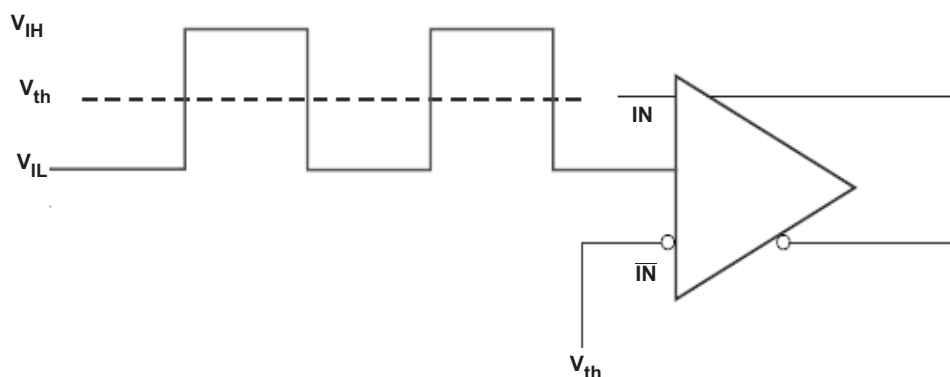

Figure 7. DC Coupled LVCMOS Input During Device Test
2.5V LVCMOS (see Figure 7) INPUT CHARACTERISTICS